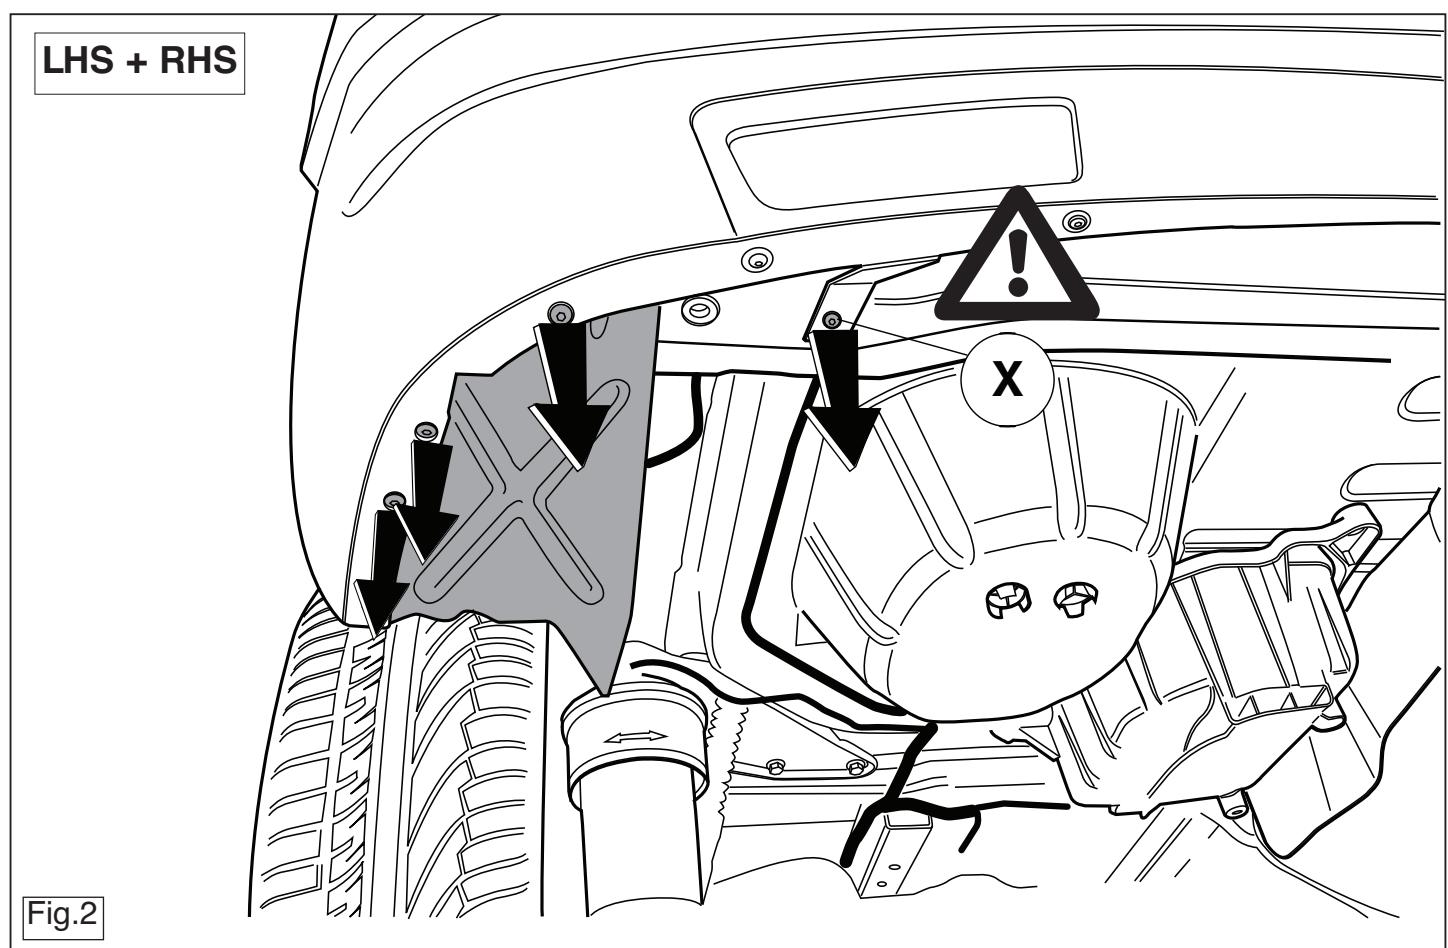

Fig.2
2. Loosen the mud guards in the wheel casings on one side to gain better access see figure 2.
3. Loosen the mud guards in the wheel casings on one side to gain better access (Including bolts X) see figure 2.
4. Удалить болты, как указано на рис. 2. Эти детали больше не понадобятся.